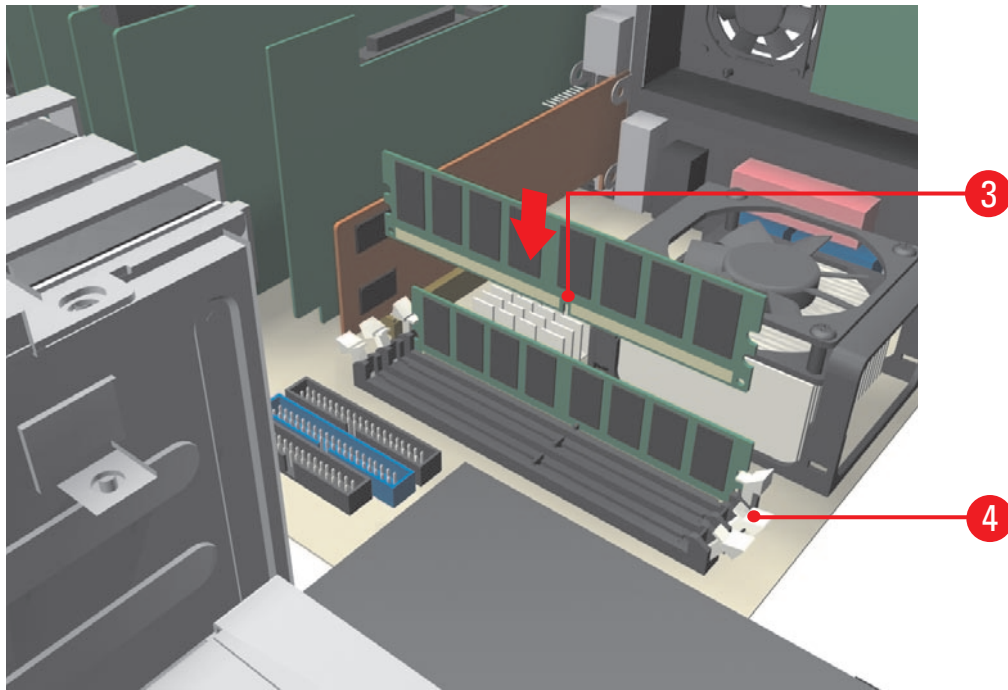

Figure 8. DIMM Module and DIMM Socket Alignment
3. Align the DIMM module with the socket so that the notch in the module lines up properly with the break in the DIMM socket. Refer to Figure 8.
4. Make sure that the white retaining clips are not in the locked position by pressing outward and down on each clip. Refer to Figure 8.